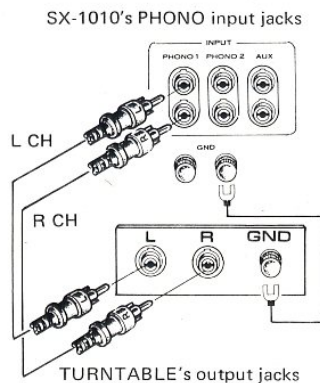

Fig. 8
- Connections between the turntable OUTPUT plugs and the receiver PHONO input jacks should be made as shown in Fig. 8, taking care not to confuse L & R channels. If, as in Fig. 8, the turntable is fitted with a ground lead or plug, this should be connected to the receiver GND terminal.